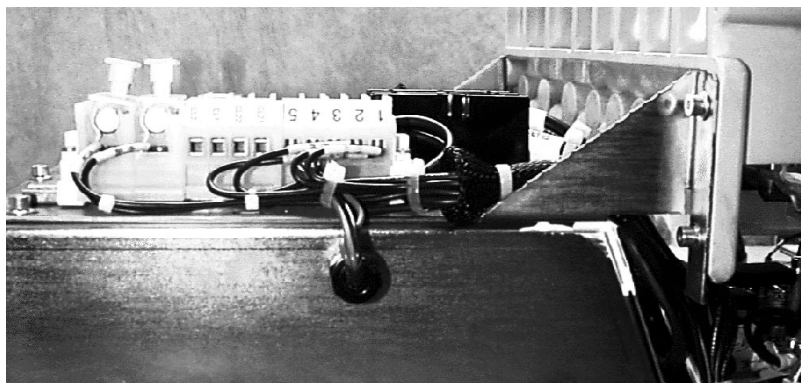

Figure 4.2.50: Heatsink Fan Leads at the TB1 Terminal Block
4. With a flat blade screwdriver, loosen screws 3, 4, and 5 on the TB1 terminal block and remove the leads to the fan. See Figure 4.2.50. Loosen the grommet and pull the fan wires out through the grommet.